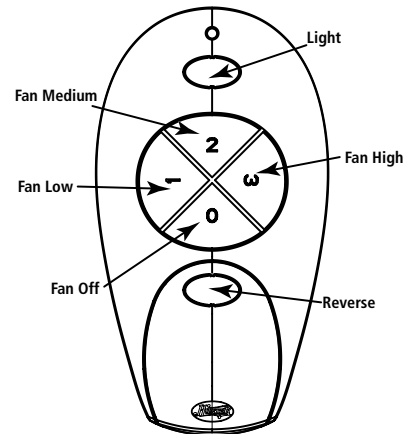

Figure 9f - Control Buttons
6. Within 20 seconds of restoring power, push the Hi, Med, and Lo buttons (in that order). Refer to Figure 9f.
Refer to Figure 9f for identification of control buttons.